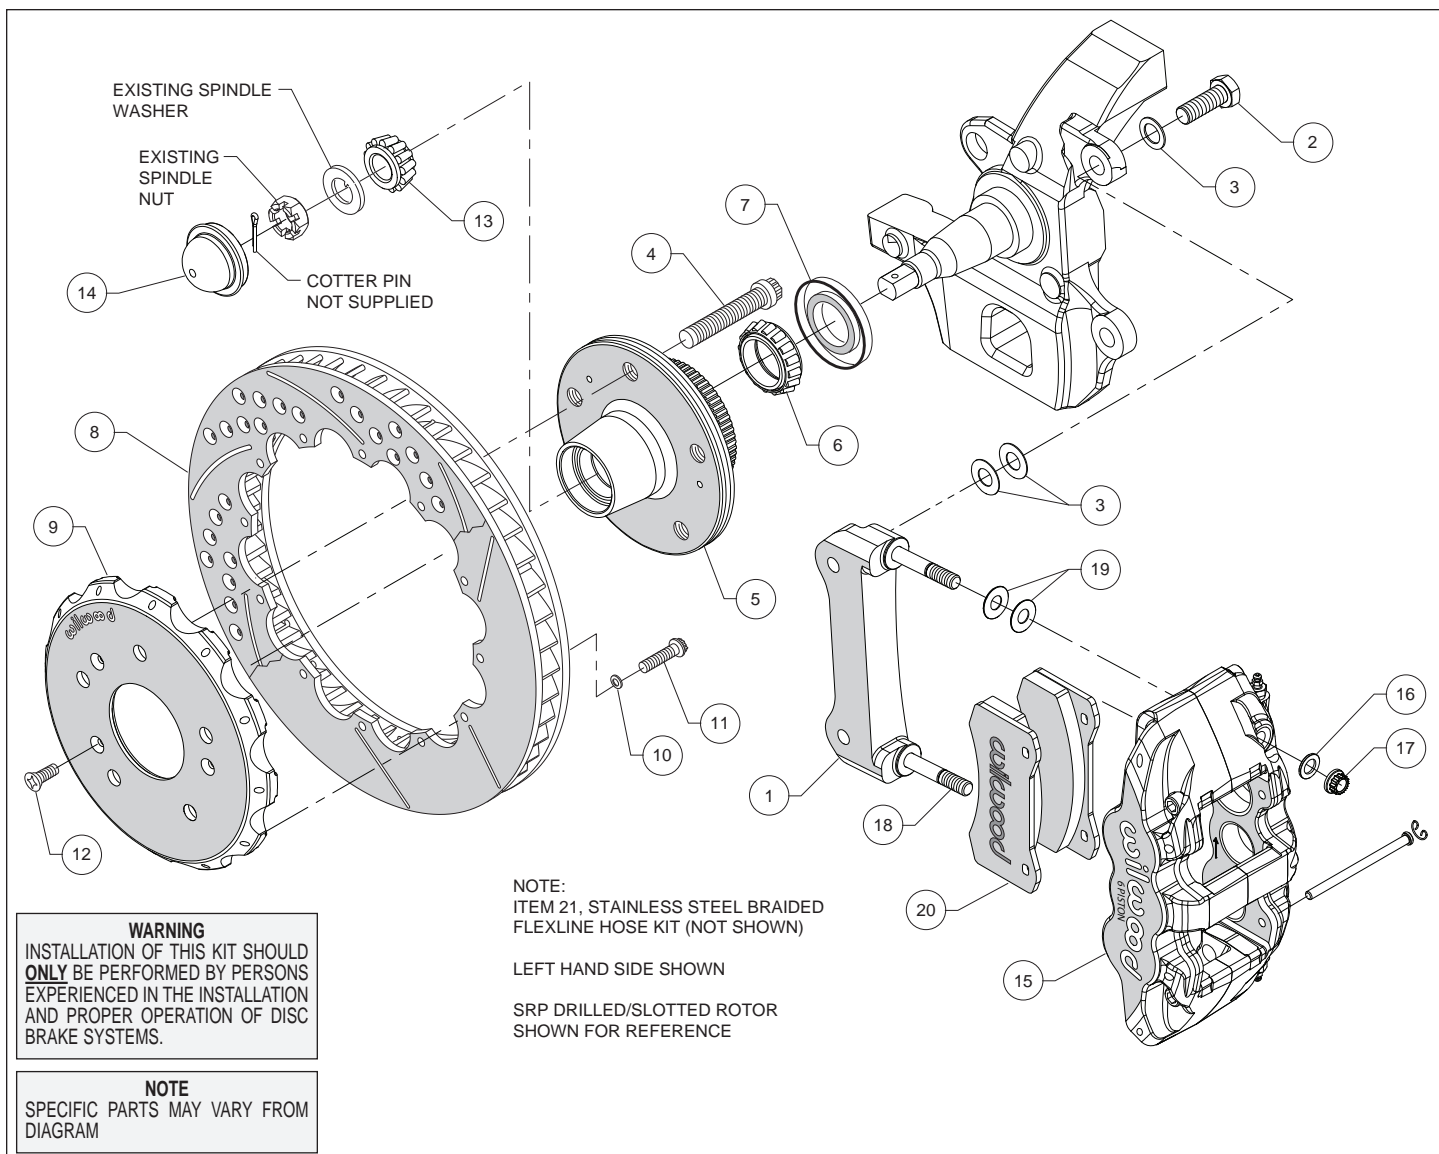
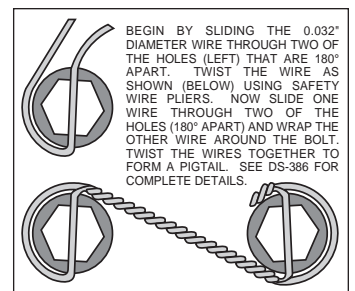

Figure 1. Typical Installation Configuration
Figure 3. Safety Wire Diagram
Assembly Instructions (numbers in parenthesis refer to the parts list on the preceding page, and Figure 1):
- The caliper mount bracket (1) should initially be installed with clean, dry threads on the mounting bolts. Orient the bracket as shown in Figure 1 and Photo 1, and install using bolts (2) and shims (3). Initially place two .029" thick shims (3) on each bolt between the bracket and spindle, Figure 1. Temporarily tighten the mounting bolts. **NOTE:** *The bracket must fit squarely against the mounting points on the spindle.* Inspect for interference from casting irregularities, machining ridges, burrs, etc. Later, after the caliper alignment has been checked, the mount bolts will be secured using red *Loctite*[®] 271.
- Install the grease seal (7) by pressing into the backside of the hub (5), flush with the end of the hub, Photo 4.
- Orient the rotor (8) and the hat (9) as shown in Figure 1 and Photo 5. Attach rotor to hat using bolts (11) and washers (10). Using an alternating sequence, apply red *Loctite*[®] 271 to the threads, and torque to 155 **in-lbs**. For an added measure of security, the bolts may be safety wired using standard 0.032 inch diameter stainless steel safety wire as shown in Figure 3. Refer to Wilwood's data sheet DS-386 (available at www.wilwood.com/Pdf/DataSheets/ds386.pdf) for complete safety wire installation instructions.
- **NOTE:** *This kit contains distinct right and left hand calipers that must be mounted in a specific direction, as described below.* Lubricate the caliper mounting studs (18) with lightweight oil. Initially place two .030" thick shims (19) on each stud between the caliper and the bracket, as shown in Figure 1 and Photo 9. Mount the caliper (15) onto the bracket (1) using lock nuts (17) and washers (16), Figure 1. Ensure that the caliper is mounted so the largest pistons are at the rotor exit end of the caliper, in relation to the direction of rotor rotation. Temporarily tighten the lock nuts and view the rotor through the top opening of the caliper. The rotor should be centered in the caliper, Photo 10. If not, adjust by adding or subtracting shims (3) between the bracket and the spindle. Always use the same amount of shims on each of the two mounting bolts. Once the caliper alignment is correct, remove the bracket mounting bolts one at a time, apply red *Loctite*® 271 to the threads, and torque to 77 ft-lb.
- Remove the two pad retaining pins from the caliper (15) by carefully popping out the pin retaining clips and sliding out the pins. Insert the brake pads (20) into the caliper from the bottom, Figure 1 and Photo 11. With the friction material facing the rotor, secure the brake pads in place with the pad retaining pins and clips, Photo 12. Reinstall the caliper onto the caliper mounting bracket and temporarily tighten the lock nuts. Check that the top of the brake pad is flush with the outside diameter of the rotor, Photo 13. If not, adjust by adding or subtracting shims (19) between the caliper and the bracket. After the caliper pad height is set, torque the caliper lock nuts (11) to 47 ft-lb.